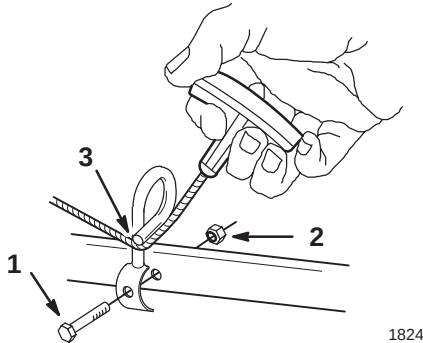

Figure 3
3. Secure starter rope guide to the lower handle with a bolt and locknut (Fig. 3).
4. Pull the starter rope through the guide (Fig. 3).